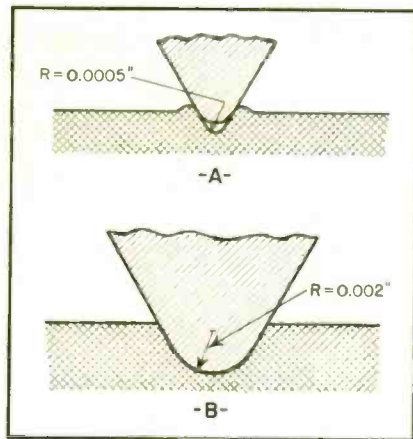

Fig. 2. Relative dimensions of embossed groove (A) and conventional acetate groove (B), together with recording styli used for both types.
This small dimension necessitates the use of a much sharper stylus point than is used for acetate recording. A conical sapphire having a tip radius of 0.5 mil is used, with an inclined angle of 70 deg., resulting in a groove depth of 0.82 mils. The relative dimensions are shown in Fig. 2, where (A) represents the stylus of this recorder and the resulting groove, and (B) represents the conventional stylus used for acetate recording. Since no material is removed, the embossing process deforms the surface of the disc to some extent, as in-
Fig. 2. Method of using square-wave test in amplifier production testing. Response of amplifier under test is compared with those representing upper and lower limits.
An extension of this method is illustrated in Fig. 2. Here the square wave is applied simultaneously to the input terminals of three amplifiers. Two of these have characteristics representing the upper and lower acceptance limits and the third is the device being tested. The outputs of these amplifiers are applied in sequence to the oscilloscope "Y" axis. Both this commutation rate and the "X" axis deflection are in synchronism with the square-wave generator output.